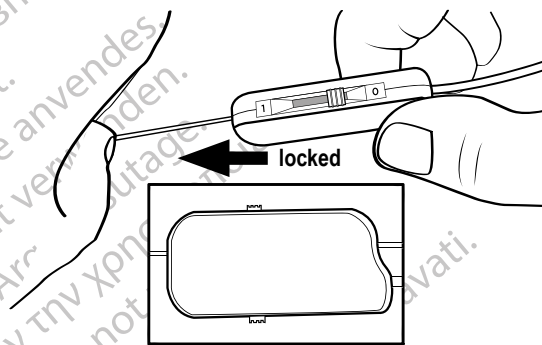

Figure 17. Securing the DBS Lead Into the 1x8 OR Cable Connector
5. Check that the locking lever on the OR Cable Connector is in the open (O) position.
6. With the Lead Stylet in place, slide the OR Cable Connector onto the proximal end of the DBS Lead (Figure 17). Make sure that the DBS Lead is fully inserted.
Note: The Lead Stylet will extend through the back hole of the OR Cable Connector when the DBS Lead is inserted as shown in Figure 17.
7. Hold the DBS Lead in place. Slide the locking lever to the locked (1) position (Figure 17).